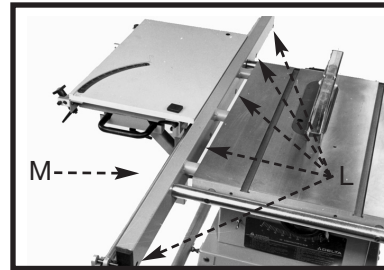

Fig. 53
5. **IMPORTANT:** If after adjusting, the height of the sliding table is still below the machine table surface, loosen the six screws that fasten the upper rail (M) to the mounting bracket, five of which are shown at (L) Fig. 53. Raise the rail parallel with the table surface. Then re-adjust the bearings.